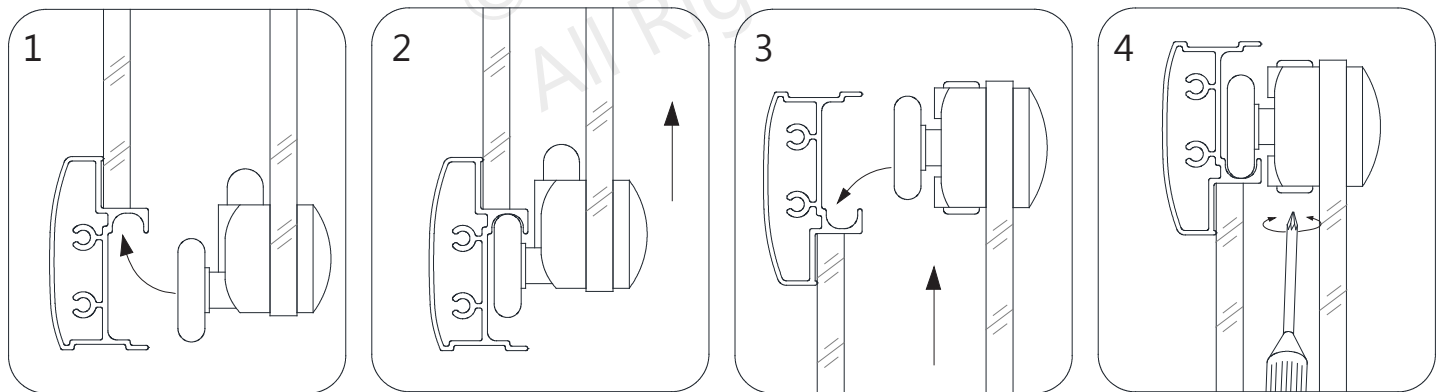

**Fig 11**
**11.** Fasten the **Top and Bottom Wheel Assemblies (#17)** to the **Door Glass (#04)** with the wheels facing the outside of the shower. The top wheels can adjust the door level with the adjustment bolt and lock nut. The bottom wheel has a press button to fix the wheel into the bottom **Guide Rail (#03)**. **(Fig 11)**
**NOTE:** The **lock nut** of the **Top Wheel Assembly (#17)** and the **press button** of the **Bottom Wheel Assembly (#17)** should be **pointing up**. **(Fig 11)**